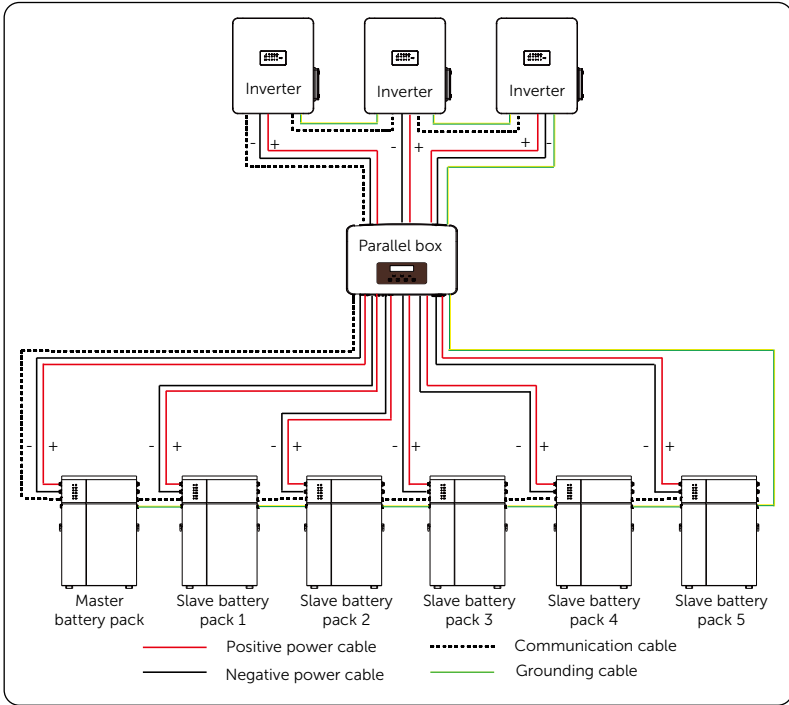

Figure 8-1 Wiring diagram of parallel connection
- For diagram after finishing wiring, please refer to "Figure 8-1 Wiring diagram of parallel connection"